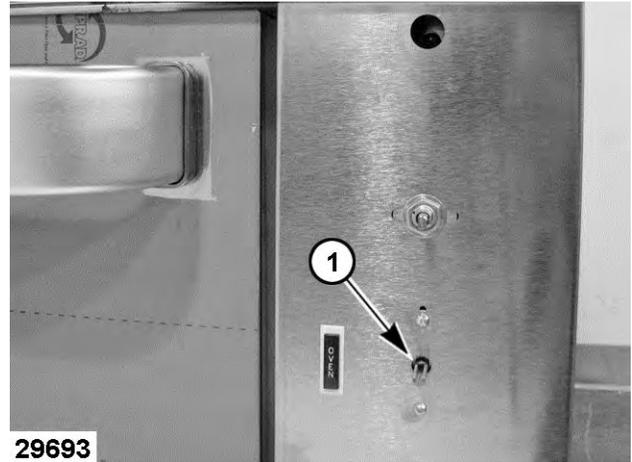

Fig. 34
- 2) Hold thermostat stem to prevent movement. Insert a flathead screwdriver into thermostat stem (1, Fig. 34) until it reaches the calibration screw.